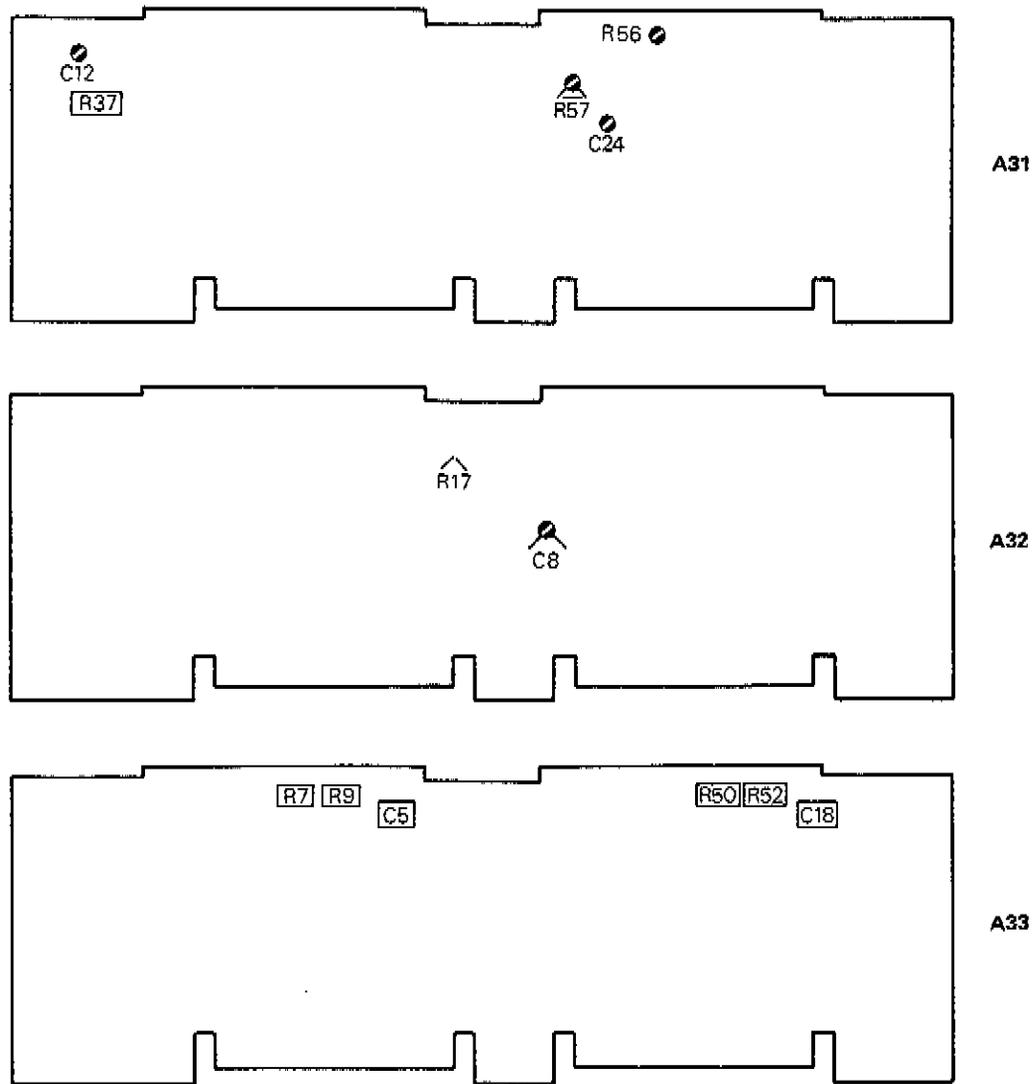

Figure 5-17 A31, A32 and A33 Adjustment Locations
6. Adjust the 3570A Amplitude Zero calibration controls for an amplitude display of approx 0dB. Adjust the 1740A A POSITION so that the left (low frequency) end of the display is at the same point as during calibration. Adjust A32C8 to make the response the same as the calibration response within ± 0.1 dB. (1 division) (See Figure 5-17 for Adjustment Locations).
7. Disconnect A32J3 and connect the 3570A Channel B input via the 75 ohm feedthrough termination to the output of the A31 Modulator Drive Amplifier (J1). Adjust the 3570A Amplitude Zero calibration controls for an amplitude display of approx 0dB. Adjust the 1740A A POSITION so that the left (low frequency) end of the display is at the same point as during calibration. Adjust A31C12 to make the response the same as the calibration response ± 0.1 dB. (See Figure 5-17 for Adjustment Locations.)
12. Adjust the 3570A Amplitude Zero calibration controls for an amplitude display of approx 0dB. Adjust the 1740A A POSITION so that the left end of the display is at the same point as during calibration. Adjust A33C5 to make the response the same as during calibration ± 0.1 dB. (See Figure 5-17 for Adjustment Locations.)